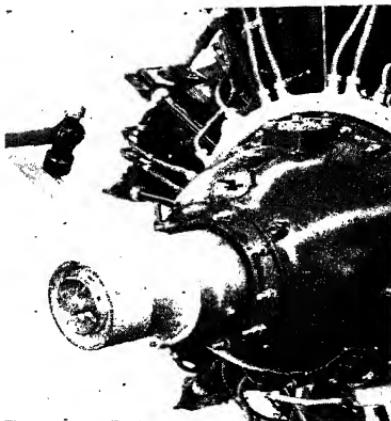

FIG. 3.—Loosening thrust nut by striking wrench with a hammer. It should only be loosened *one turn* until ready to remove.
3. Loosen the thrust nut *one* turn (Fig. 3).